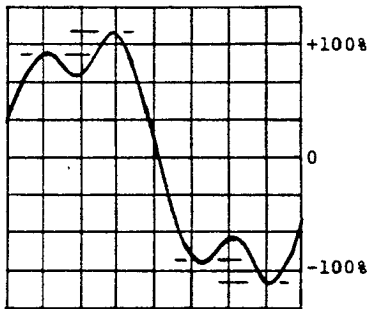

Fig. 8d (1900Hz)
- STEP 5 While continuing to retune the generator to maintain highest p-p amplitude, advance R26 to a point where the left-hand peak is the same value below +/-3 divisions as the right-hand peak is above +/-3 divisions (Fig. 8d).